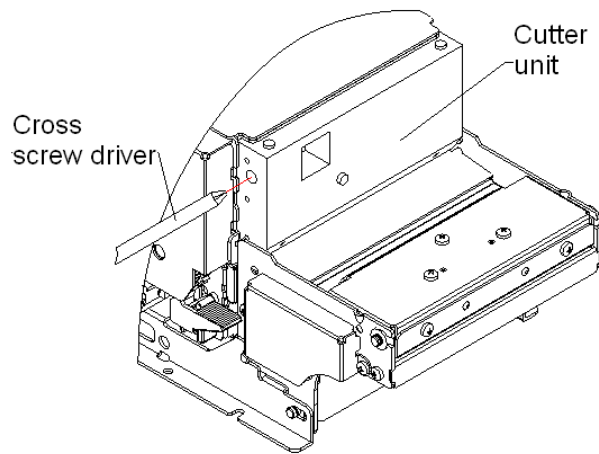

Fig.5.4-1 Manual cutter reset
2. Use the cross screwdriver to go through the hole as figure 5.4-1 and go forward to the cutter motor turbo, rotate the screwdriver along the arrow lightly , until there is big gap between upper and nether blade;